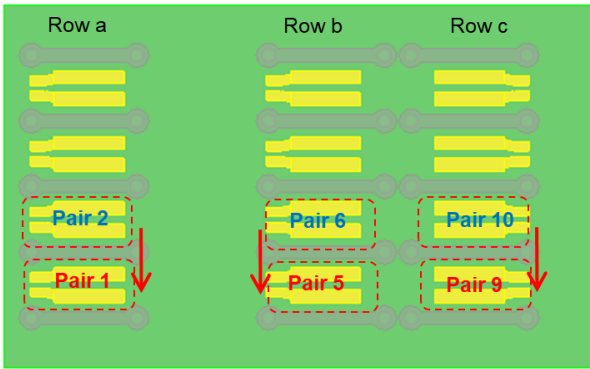
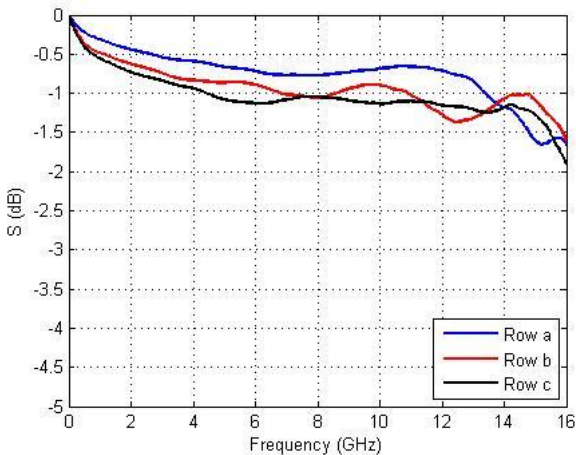

Figure 4-10 Nearest neighbors of IT9M2
Figure 4-11 Differential IL of IT9M2
Figures 4-11 to 4-14 show the measured differential insertion loss (IL), return loss (RL), NEXT, and FEXT between two nearest neighbors for each row (Figure 4-10).